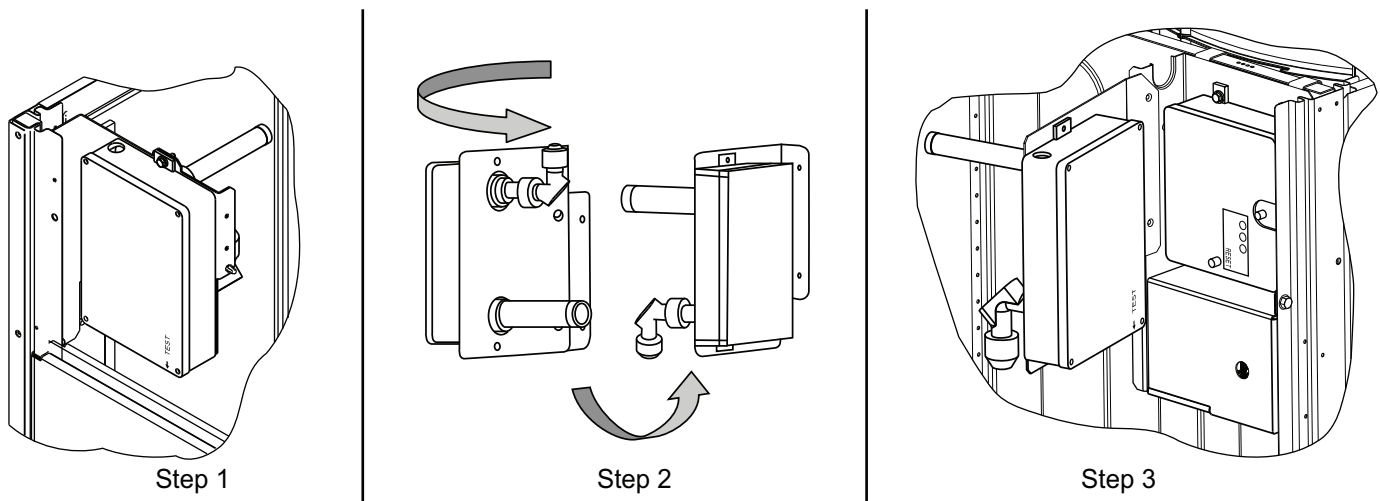

Fig. 77 — Completing Installation of Return Air Smoke Sensor
1. Unscrew the 2 screws holding the return air smoke detector assembly. See Fig. 77, Step 1. Save the screws.
2. Turn the assembly 90 degrees and then rotate end to end. Make sure that the elbow fitting is pointing down. See Fig. 77, Step 2.
3. Screw the sensor and detector plate into its operating position using screws from Step 1. See Fig. 77, Step 3.